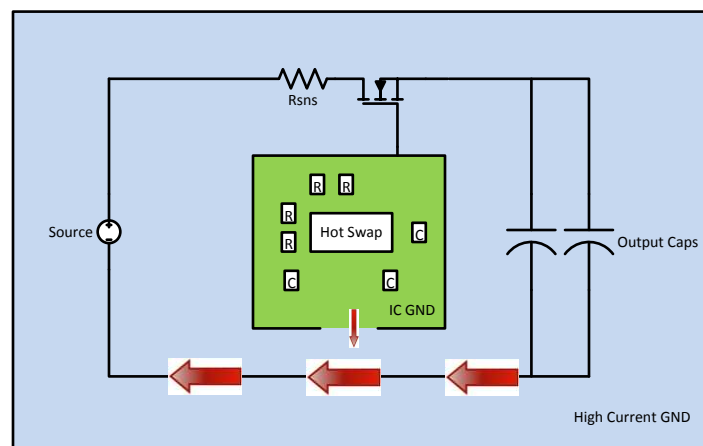

Figure 58. LM25066 Quiet IC Ground Layout
- The ground connections for the various components around the LM25066 should be connected directly to each other and to the LM25066's GND pin and then connected to the system ground at one point, as shown in Figure 58. Do not connect the various component grounds to each other through the high current ground line. For more details, see application note AN-2100.